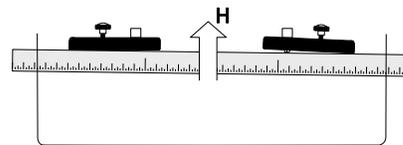
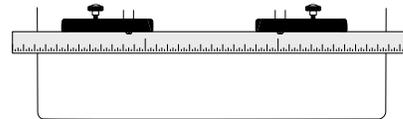
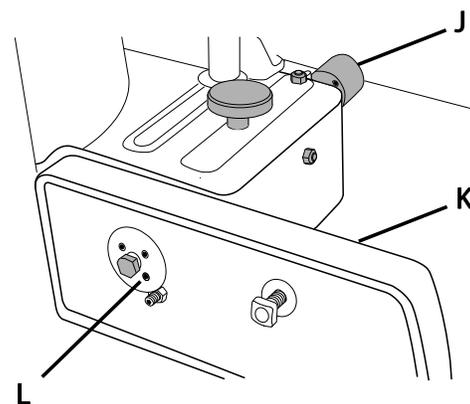

Figure 9
Figure 10
Figure 11
6. Remove both fences and place the straightedge against the infeed and outfeed fence castings (Figure 9).
8. Maintain steady pressure of the straightedge against the fence castings (H, Fig. 9). At the same time, attempt to bring both fences into alignment as shown in Figure 10. This is accomplished by alternately making incremental adjustments to four *setscrews* (L, Fig. 11) on the front face of the *casting* (K, Fig. 11) with a 2mm hex wrench, followed by repositioning the casting with the *micro adjust dial* (J, Fig. 11) as required.
**Important:** It is recommended that the adjustment setscrews (K, Fig. 11) be rotated in 1/16th increments or less at a time.
Alignment is complete when the skewed and reference fence castings are coplanar (in-line) as shown in Figure 10.